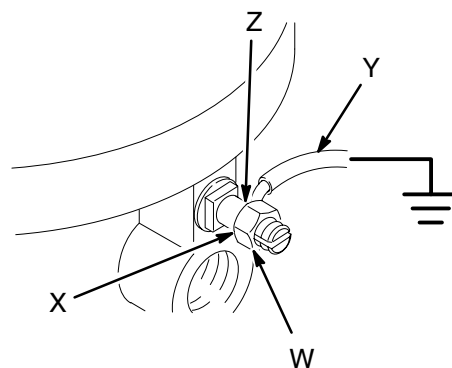

Fig. 1
1. *Pump*: use the ground wire and clamp. See Fig. 1. Loosen the grounding lug locknut (W) and washer (X). Insert one end of a 12 ga (1.5 mm²) minimum ground wire (Y) into the slot in lug (Z) and tighten the locknut securely. Connect the other end of the wire to a true earth ground. For a ground wire and clamp, order Part No. 237–569.
4. *Surge tank*: use a ground wire and clamp. See Fig. 1.